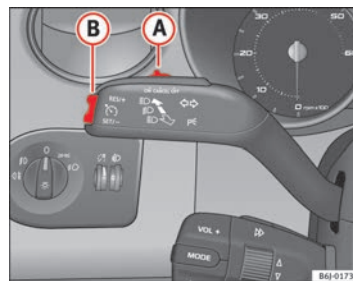

Fig. 118 Turn signal and main beam headlight lever: switch and rocker switch for the cruise control
- Press the upper part **RES** of the rocker switch ⇒ fig. 118 **B** to increase the speed. The vehicle will continue to accelerate as long as you keep the rocker switch pressed. When you release the switch, the new speed is stored.
Cruise control is switched off if you reduce speed by depressing the brake pedal. Reactivate the control by pressing once on the upper part of the rocker switch **RES+** ⇒ page 155, fig. 118 **(B)**.